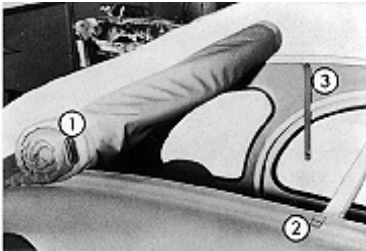

Fig. 28
Free the hood securing plate (Fig. 28, Mark 1) from the lugs (2).